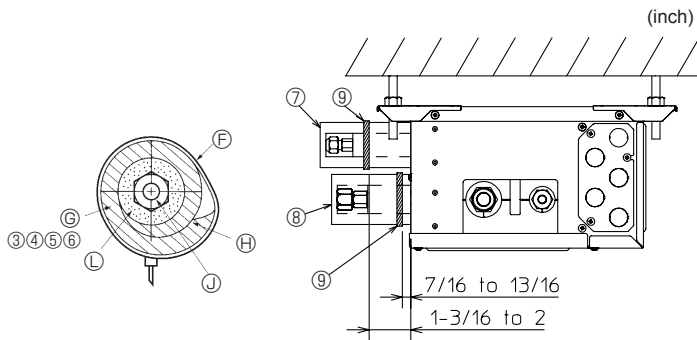
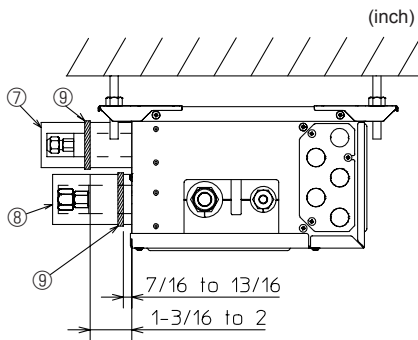

Fig. 7-3
Fig. 7-4
- (3) Connect the refrigerant piping immediately. Always tighten the flared nuts to the torque specified in the table 2 using a torque wrench and double spanner.
- (4) Press the pipe covers ③ and ⑤ on the liquid piping against the unit and wrap to hold in place. (Fig. 7-3)
- (5) Press the pipe covers ④ and ⑥ on the gas piping against the unit and wrap to hold in place. (Fig. 7-3)
- (6) Apply the supplied bands ⑨ at a position 7/16-13/16 inch (10 - 20 mm) from each end of the pipe covers (③④⑤⑥).
- (7) If the indoor unit is not connected, fit the supplied pipe covers (with caps, ⑦ and ⑧) to the branch box refrigerant piping connections against the unit to prevent condensation dripping from the pipes. (Fig. 7-4)
- (8) Clamp the pipe covers (⑦⑧) in place with the supplied bands ⑩.
① Flare cutting dimensions
- Ⓕ Band ⑨
- Ⓖ Pipe covers ③④⑤⑥
► Use the following procedures for indoor connection part which indoor unit is not connected. (Fig. 7-4)
- (1) In order to prevent refrigerant leaks, make sure that the flare nuts are tightened according to the specified torques* in Table 3.
- (2) In order to prevent condensation, install the pipe covers ⑦ ⑧ against the unit and fasten them with the supplied bands ⑨ .